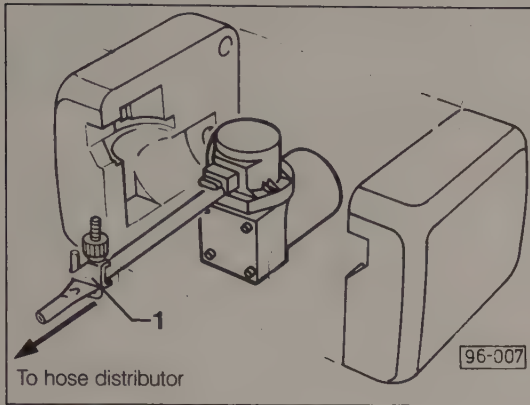

Fig. 5-8. Bi-pressure pump being tested with hose clamp at 1.
2. Clamp the hose as shown in Fig. 5-8. Activate the pump using the door key. If the pump runs longer than 5 seconds, either the hose from the pump is leaking, or the pump is faulty. If the pump shuts off within 5 seconds, remove the clamp and continue testing.